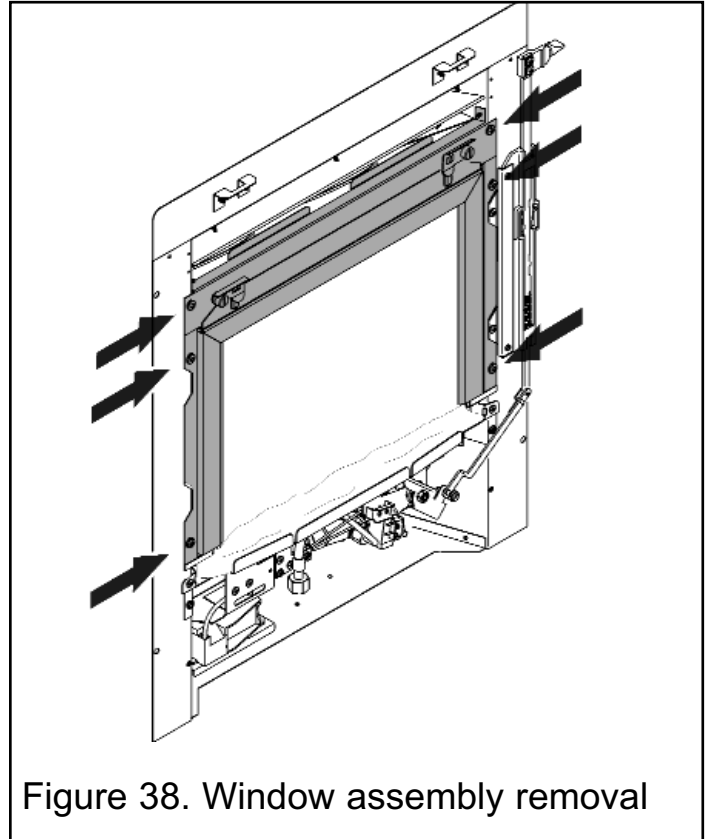

Figure 38. Window assembly removal
2. Unscrew and remove the six screws that secure the window mounting frame and window assembly. Remove and place away from the work area (See figure 38).